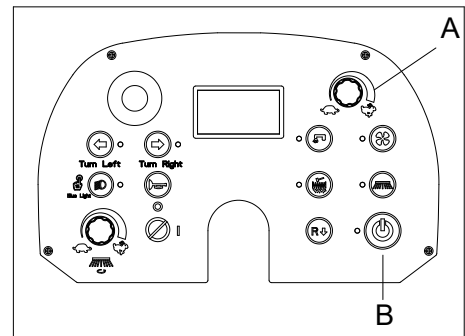

Figure 19
- Adjust speed adjusting knob (A, Figure 19) to minimize driving speed.
- Press one-button start button (B, Figure 19) to lower the main broom and turn it on for about one minute by pressing the accelerator pedal.